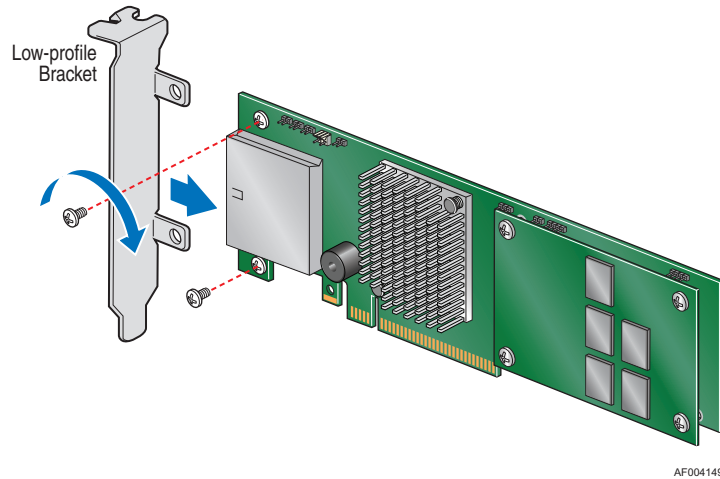

Figure 1. Changing the Bracket
3. If necessary, change the bracket on the RAID controller to fit the height of the server system (see Figure 1).